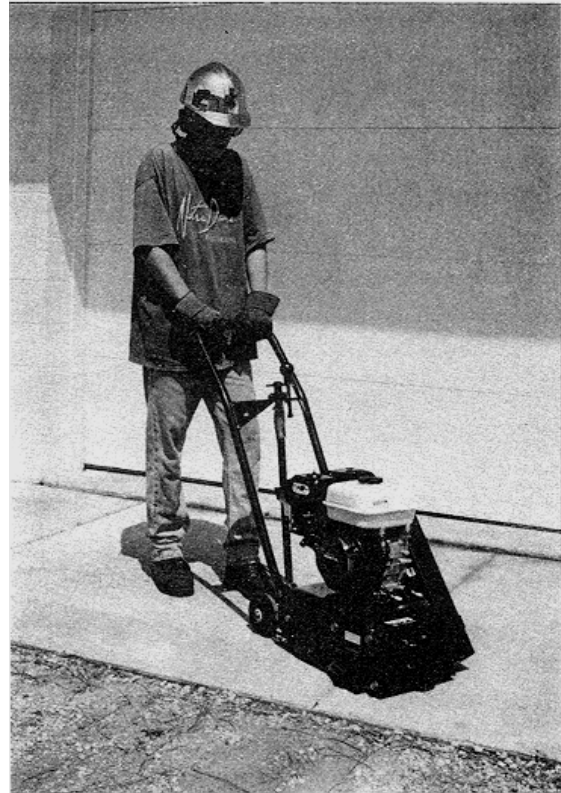

FIGURE 28
2) Proper operator position will enhance operational safety and overall productivity. FIGURE 28. Operate the engine at maximum, governed speed. Consult the material supplied by the engine manufacturer and the SPECIFICATIONS section for specific information.